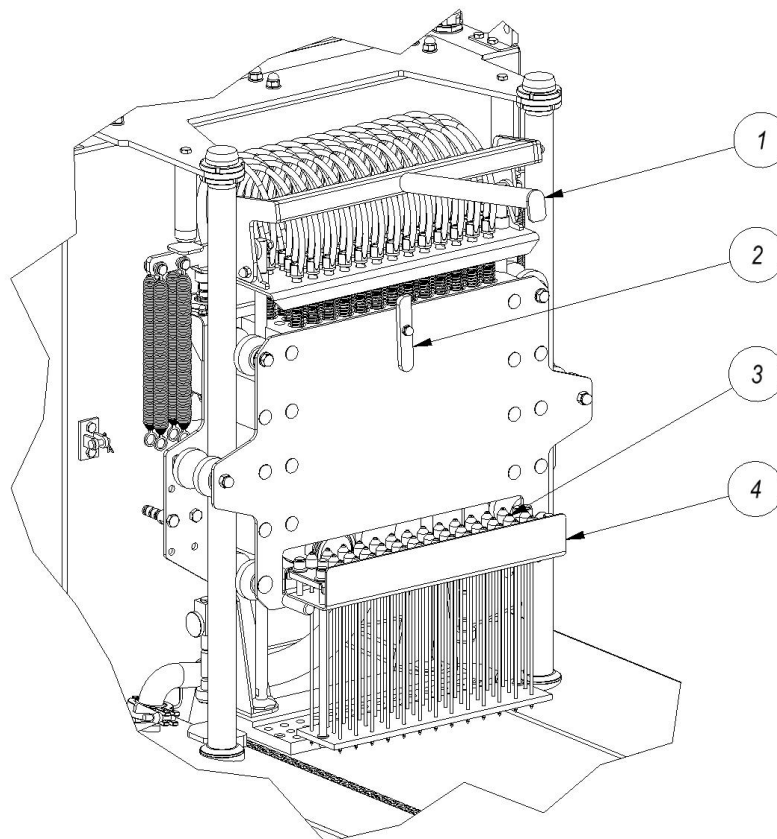

Figure 5. Needles replacement
- Unblock the replaceable injection head p. 4 - fig. 5 by raising the lever 1; block the lever in the raised position with the block p. 2,